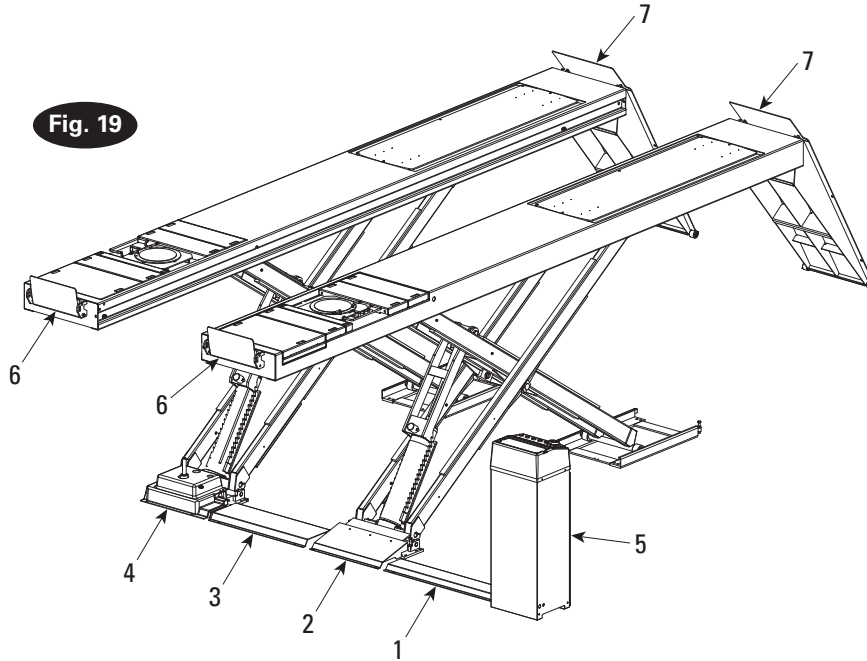

Fig. 19
Positioning the covers (1-4) and the control unit (5). Using the existing holes as templates, drill with a 9 mm (3/8") bit to a depth of 50 mm (2"), Fig. 19.